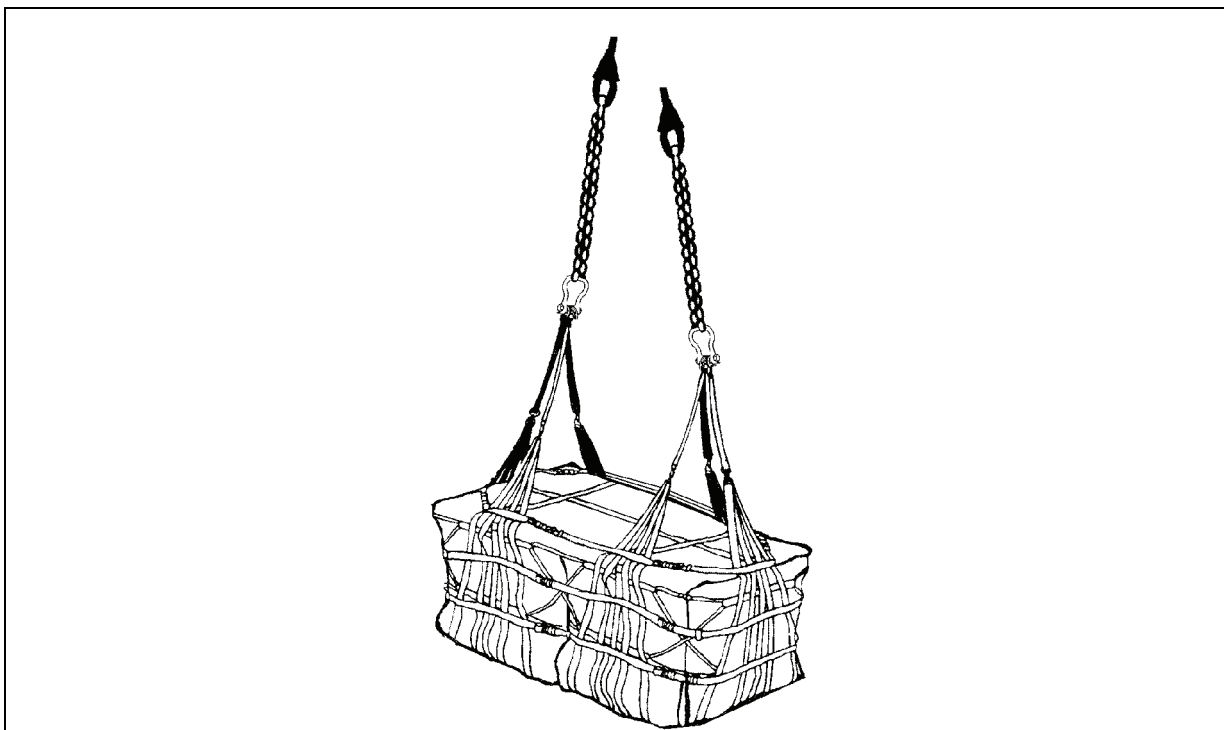
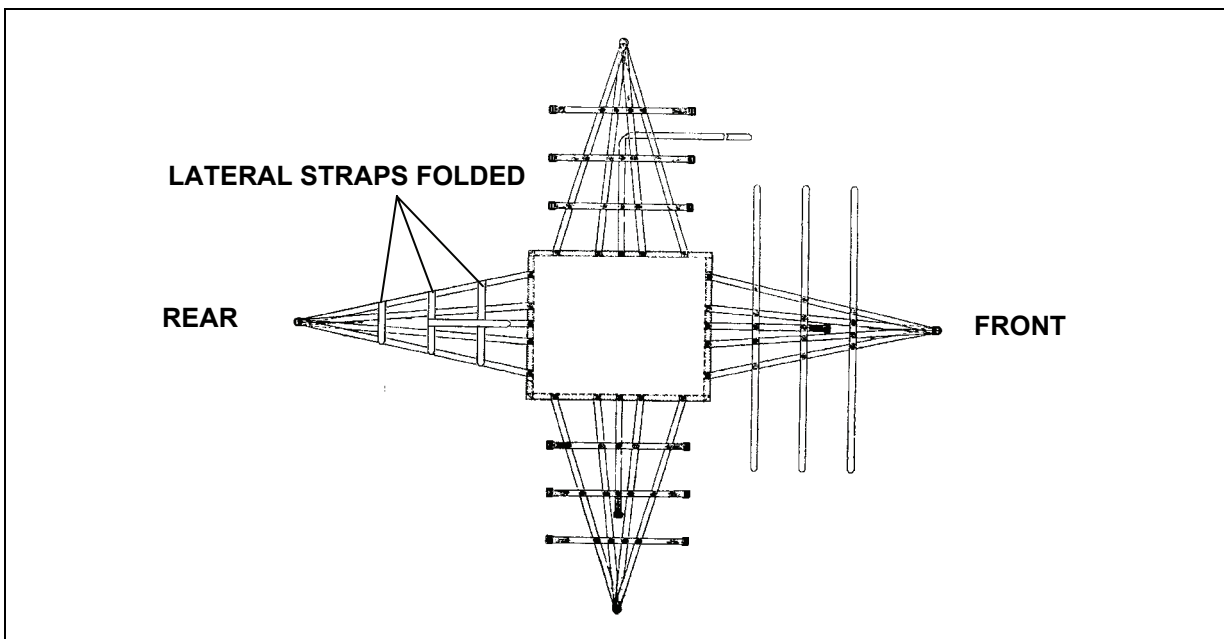

Figure 8-8. Single-point Load Consisting of a Double A-22 Cargo Bag
Figure 8-9. First A-22 Sling Assembly Positioned
8-3. The double A-22 cargo bag is two adjustable cotton duck cloth/nylon and nylon webbing containers consisting of two sling assemblies, two covers, and six suspension webs (Figure 8-8). The bag is used to deliver loads that are longer than the standard A-22 load. The cover is optional. The double A-22 has a weight capacity of 900 - 2,200 pounds. Inspect the container for serviceability in accordance with Table 2-1, Preventive Maintenance Checks and Services, in TM 10-1670-298-20&P. The best way to learn about this carrying device is to rig and derig it several times. The following steps and Figures 8-9 through 8-16 explain how to rig a double A-22 cargo bag:
- Fold and place all lateral straps on top of the rear support web (Figure 8-9).